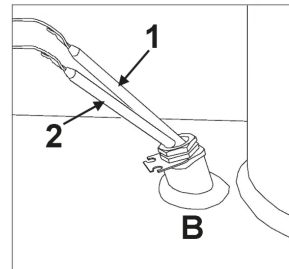

fig. 16 - Well B
Insert in the well "B" (fig. 16), the bulb of the 1st stage thermostat (1) and that of the 2nd stage thermostat (2).